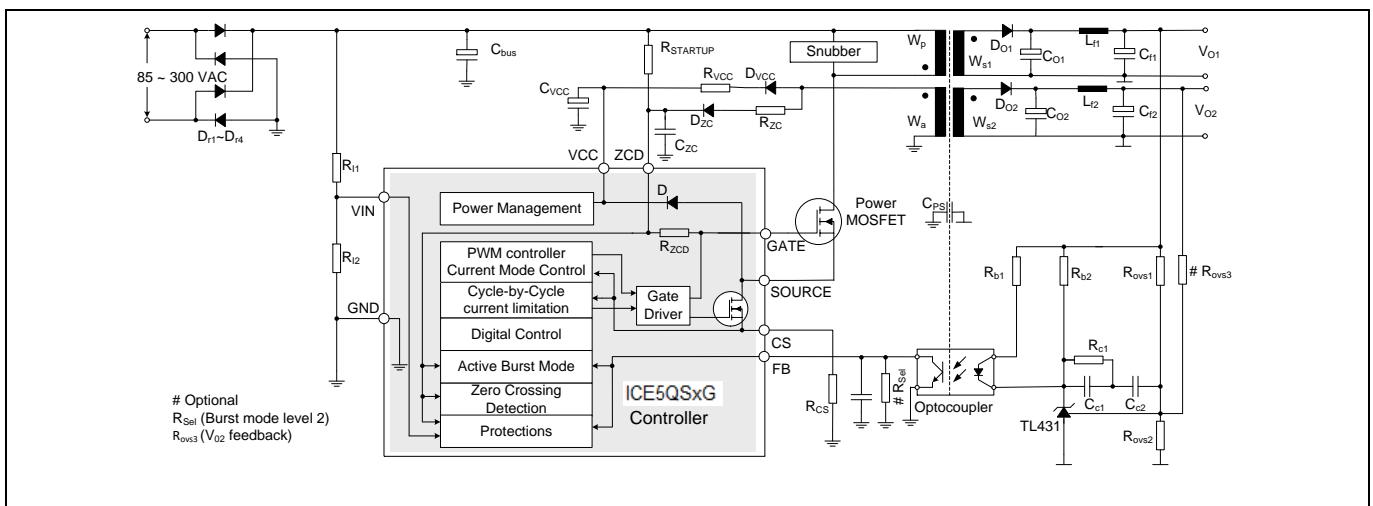
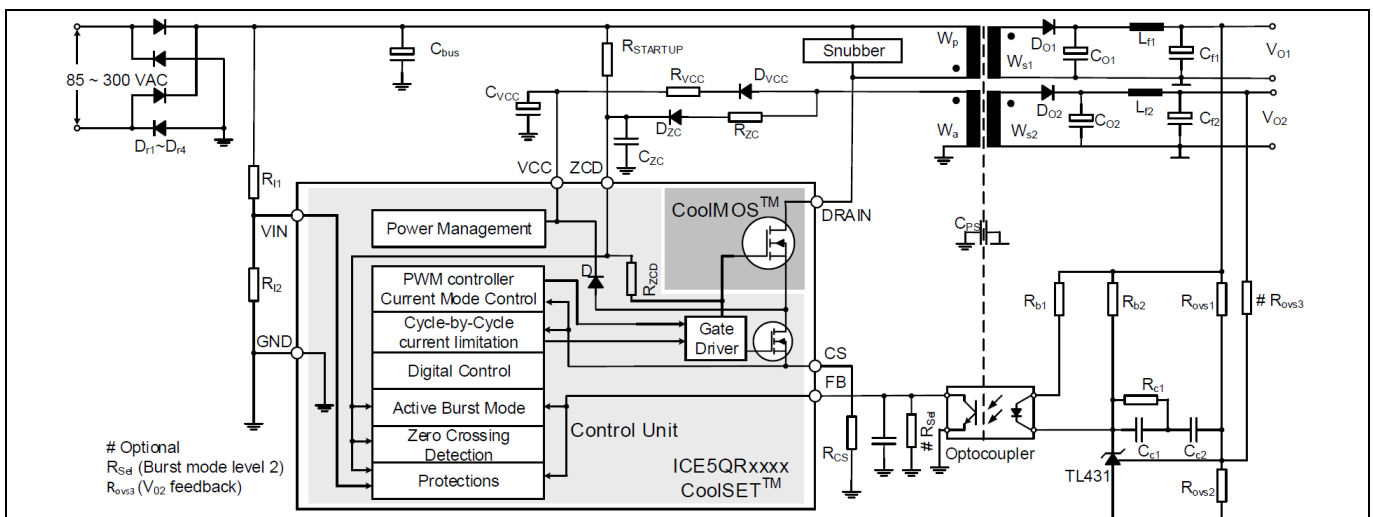
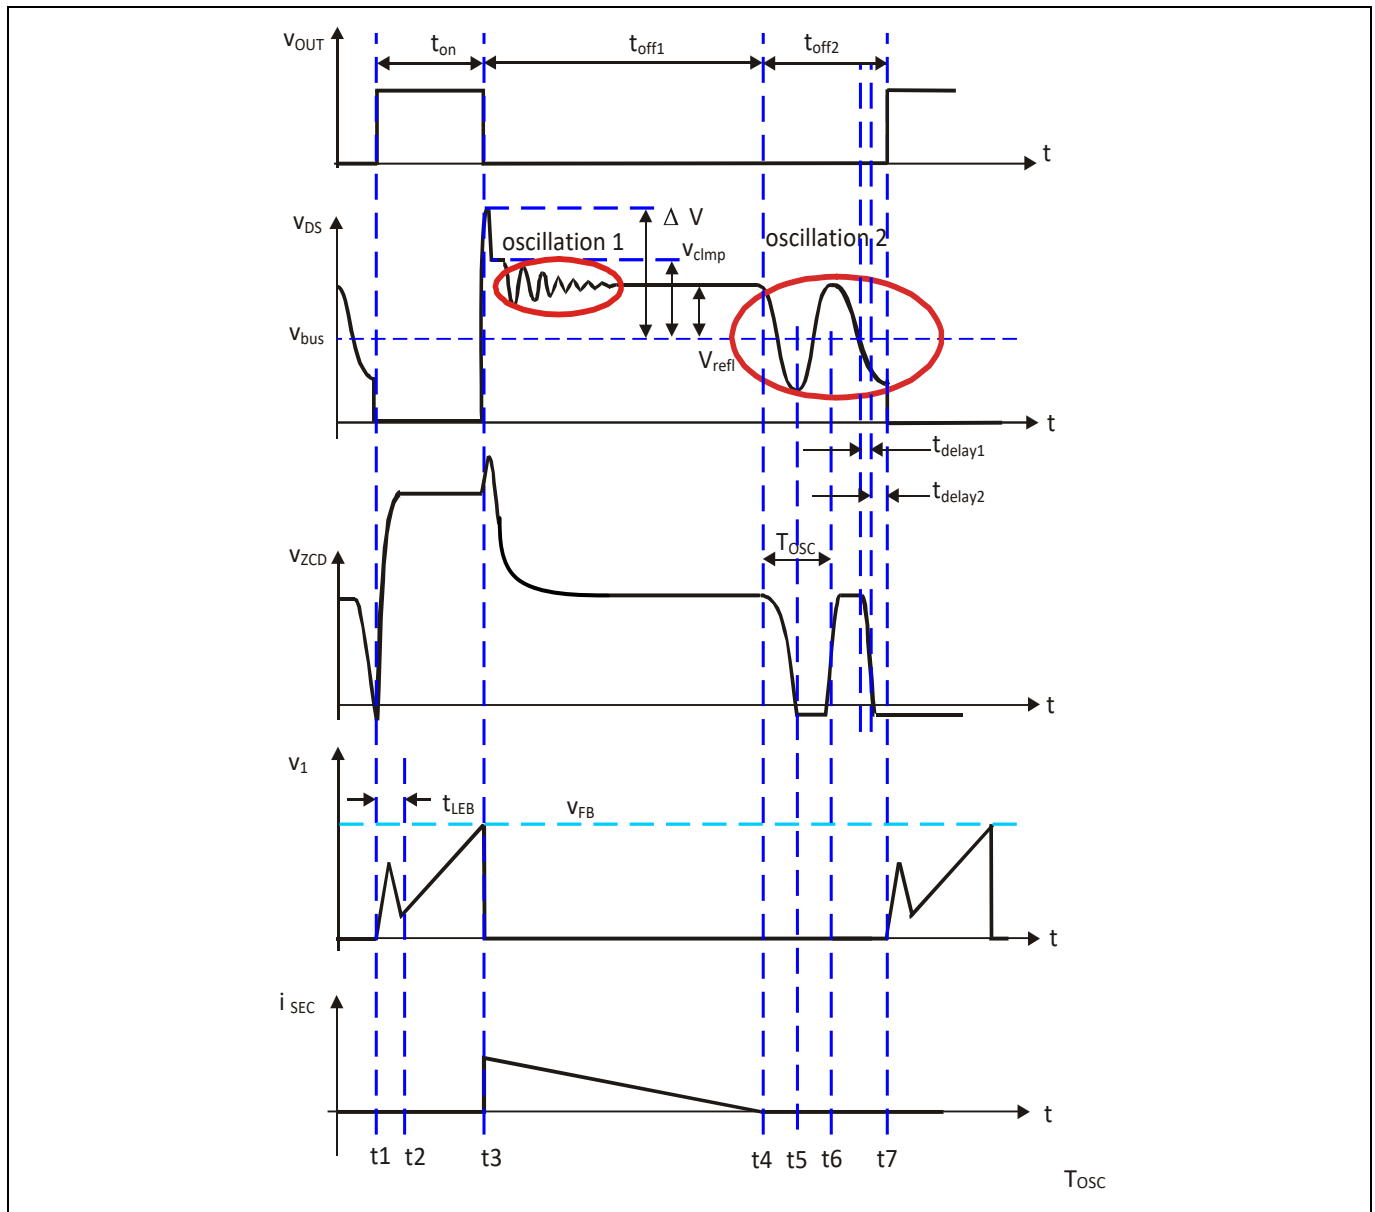

Figure 2 Typical application of controller
Figure 3 Typical application of CoolSET™
Figure 4 Typical waveforms of the fifth-generation QR Flyback converter
The V_{IN} pin is connected to the bus via a resistor divider (see Figure 2) to sense the line voltage. This pin combines the functions of input-line OVP, brown-out and minimum Zero Crossing (ZC) count setting for low-line and high-line.
2.2.3 Current Sense (CS)
The source pin is connected to the source of the external power switch Q1 (see Figure 2), which is in series connection with the internal low-side MOSFET and internal V_{CC} diode D.
Figure 2 and Figure 3 show a typical application of ICE5QSxG and ICE5QRxxxxxx in a QR Flyback converter. In this converter, the mains input voltage is rectified by the diode bridge and then smoothed by the capacitor C_{bus} where the bus voltage V_{bus} is available. The transformer has one primary winding W_p , one or more secondary windings W_{s1} and W_{s2} and one auxiliary winding W_a . When QR control is used for the Flyback converter, the typical waveforms are shown in Figure 4. The voltage from the auxiliary winding provides information about demagnetization of the power transformer and the output voltage.
As shown in Figure 4, after switch-on of the power switch the voltage across the shunt resistor R_{cs} shows a spike caused by the discharging of the drain-source capacitor. After the spike, the voltage V_{cs} shows information about the real current through the main inductance of the transformer L_p . Once the measured current signal V_{cs} exceeds the maximum value determined by the FB voltage V_{FB} , the power switch is turned off. During this on-time, a negative voltage proportional to the input bus voltage is generated across the auxiliary winding.
After the secondary-side current falls to zero, the drain-source voltage of the power switch shows another oscillation (oscillation 2 in Figure 4; this is also mentioned as the main oscillation in this document). This oscillation happens in the circuit consisting of the equivalent main inductance of the transformer L_P and the capacitor across the drain-source (or drain-GND) terminal C_{DS} , which includes $C_{o(er)}$ of the MOSFET. The frequency of this oscillation is calculated as:
where, f_{osc2} : oscillation 2 in Figure 4
When AC-line input voltage is applied as shown in Figure 2 and Figure 3, a rectified voltage appears across the capacitor C_{bus}. The pull-up resistor R_{START-UP} provides a current to charge the C_{iss} (input capacitance) of the power switch and gradually generate one voltage level. If the voltage over C_{iss} is high enough, power switch-on and the V_{CC} capacitor will be charged through primary inductance of transformer L_P, the power switch and the internal diode with two steps of constant current source I_{VCC_Charge1}¹ and I_{VCC_Charge3}¹.